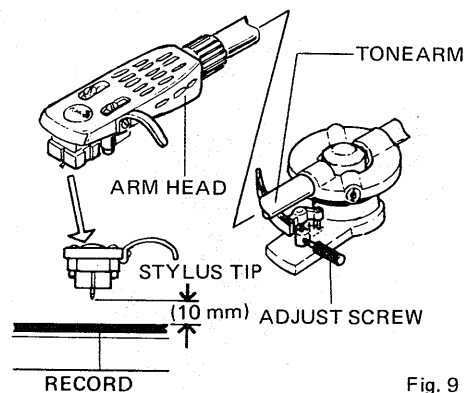

Fig. 9
- Check that the gap between stylus tip and record surface is 10mm when the tonearm is on the elevator. If not, adjust elevator height with the setscrew (Fig. 9).